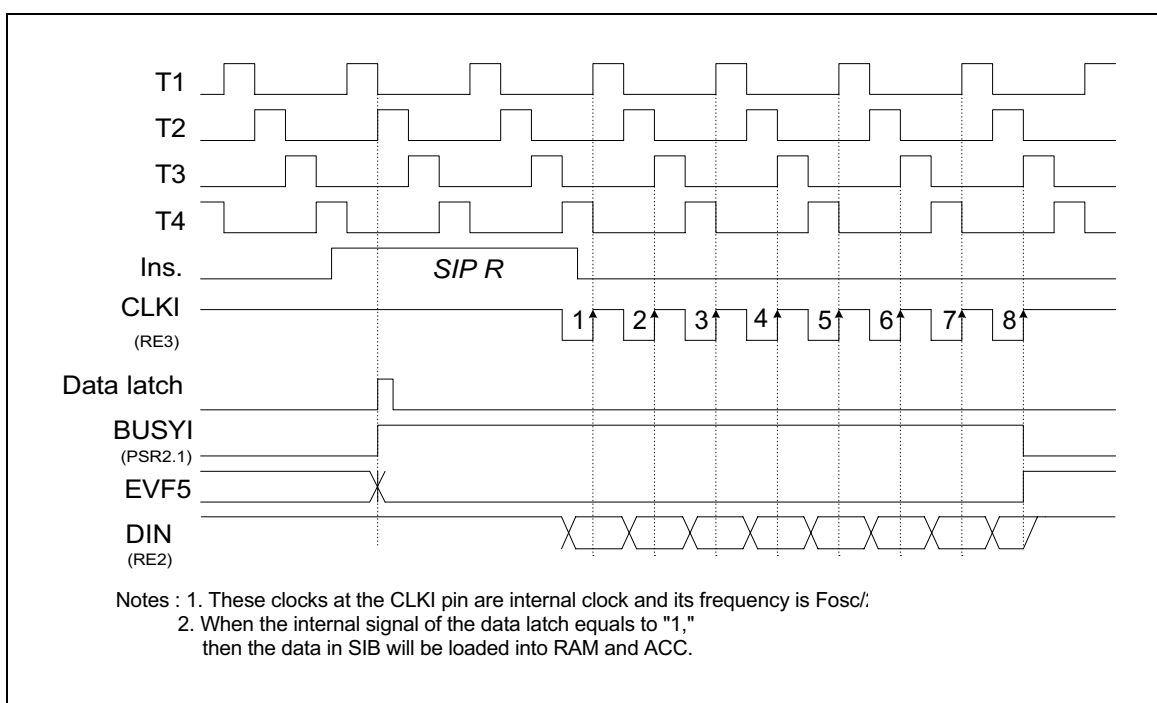

Figure 11. Timing of the Serial Input Function (SIP R)
- (1) When the SIP R instruction is executed, the data will be loaded from the serial input buffer to the ACC and RAM first, and bit 1 of port status register 2 will automatically be set to "1" ($BUSY_I = 1$). Then the CLKI pin will send out 8 clocks and the data from the DIN pin will be loaded to SIB at the rising edge of the CLKI pin. After the 8 clocks have been sent, $BUSY_I$ will be reset to "0" and EVF.5 will be set to "1." At this time, if IEF.5 has been set ($IEF.5 = 1$), an interrupt is executed; if HEF.5 has been set ($HEF.5 = 1$), the hold state is terminated. Users can check the status of PSR2.1 ($BUSY_I$) to know whether the serial input process is completed or not. If a serial input process is not completed, and the SIP R instruction is executed again, the data will be lost. The timing is shown in Figure 11.